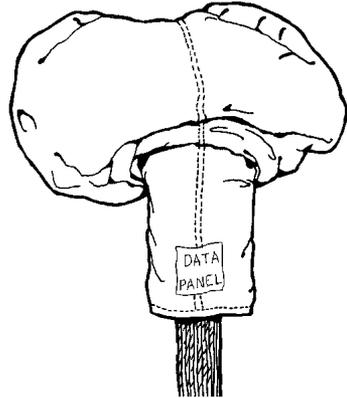

Figure 9.
Step 10.) Maintain the grip on the canopy and gently swing the canopy outward and away. Place the canopy on the floor and apply tension to the lines. **NOTE:** If the canopy is placed on the floor with a twisting motion, it will not spread out evenly. Insure the nose is facing downward toward the floor. The center seam of the center cell (indicated by the data panel) should be in the center of the canopy bundle. (See Figure 9.)